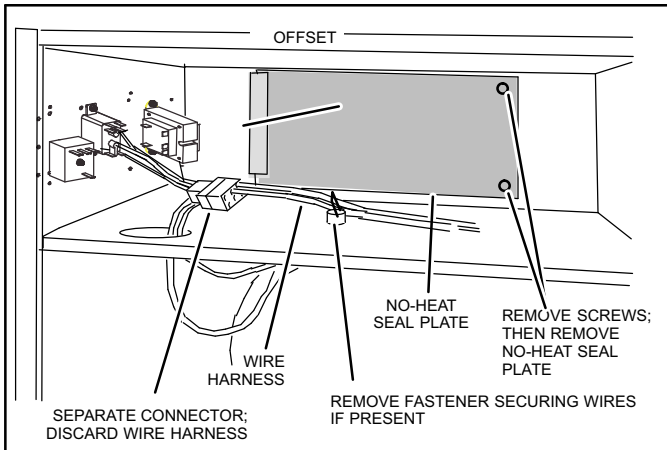

Figure 1. Prepare to Install Heat Element
3. Disconnect any existing field supply wires and pull them out of the air handler. Disconnect and remove wiring harness and fastener (see figure 1). If not removed, these items will prevent the heat section's base from resting properly in the compartment.
4. Remove the no-heat seal plate in the air handler frame. See figure 1.